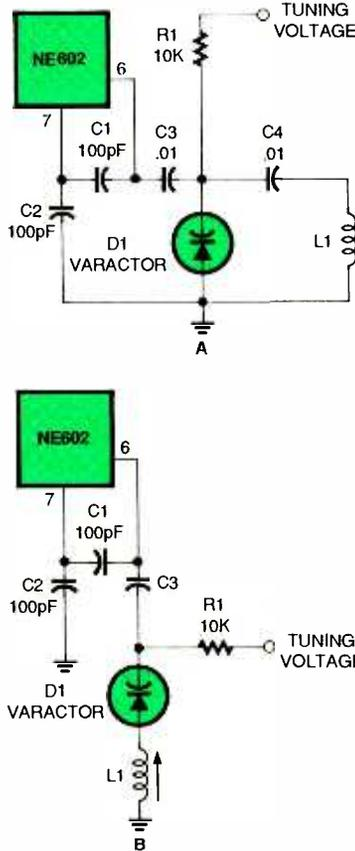
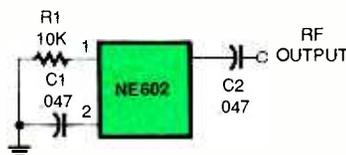
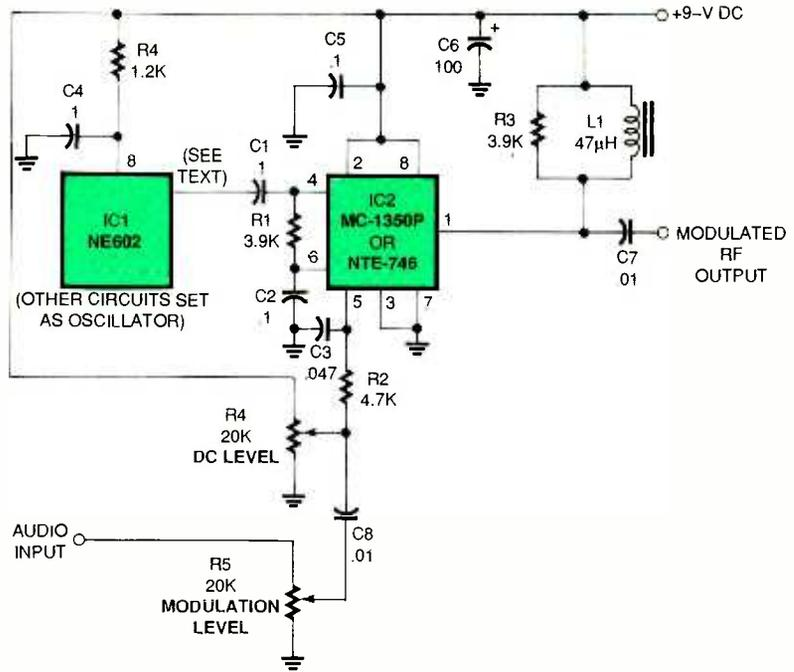

Fig. 8. The LO circuit for the NE602 can also be voltage-controlled. Here are two different methods of accomplishing that.
Fig. 9. If LO signal of the NE602 is sent directly to the output pins, the device can be used as a low-cost, high-frequency oscillator.
Fig. 10. By using an MC-1350P modulator IC, the output of the NE602 can easily be amplitude modulated.
**Voltage Tuned NE602 Oscillator Circuits.** Figure 8-a and 8-b show a pair of VFO circuits in which the capacitor element of the tuned circuit is a voltage-variable capacitance diode, or varactor (D1 in Fig. 8-a and 8-b). Those diodes exhibit a junction capacitance that varies in direct response to the reverse-bias voltage applied across the diode. Thus, the oscillating frequency of those circuits is controlled by a tuning voltage. The version shown in Fig. 8-a is a parallel-resonant Colpitts oscillator, while Fig. 8-b is a series-tuned Clapp oscillator.
**Using the NE602 as a Signal Generator.** The NE602 is normally used as a receiver front-end or as a frequency converter. It can also be used as a signal generator. Figure 9 shows the basic configuration for providing the LO signal at output pins 4 and 5; place a 10,000-ohm resistor (R1) between pin 1 and ground, while bypassing pin 2 to ground through a 0.047- $\mu$ F capacitor. The output signal is taken from either pin 4 or 5 through another 0.047- $\mu$ F capacitor.
The output signal of Fig. 9 will be a sinewave at the frequency of oscillation for the oscillator circuit connected to pins 6 and 7. That signal can be swept or frequency modulated by using one of the varactor LO circuits shown in Fig. 8. To sweep the frequency, make the tuning voltage a sawtooth waveform, while to frequency-modulate it, use a sinewave. If you want to amplitude-modulate the signal, then use a circuit such as Fig. 10.
The signal source is any of the NE602 oscillators (IC1 in Fig. 10), while the modulator is IC2, an MC-1350P chip. That chip is also available from the service-repair industry replacement lines as the NTE-746 or ECG-746. It is an RF-gain block with a gain-control terminal (pin 5), and that gain-control terminal can be used for the
amplitude-modulation function. Two signals are applied to the gain-control terminal as shown in Fig. 10; a DC level from potentiometer R4, and the